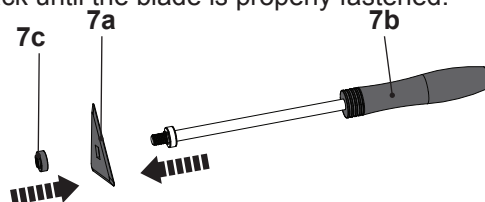

Fig. 1
- > Remove the outer nut (7c) from the thread of handle (7b) (Fig. 1).